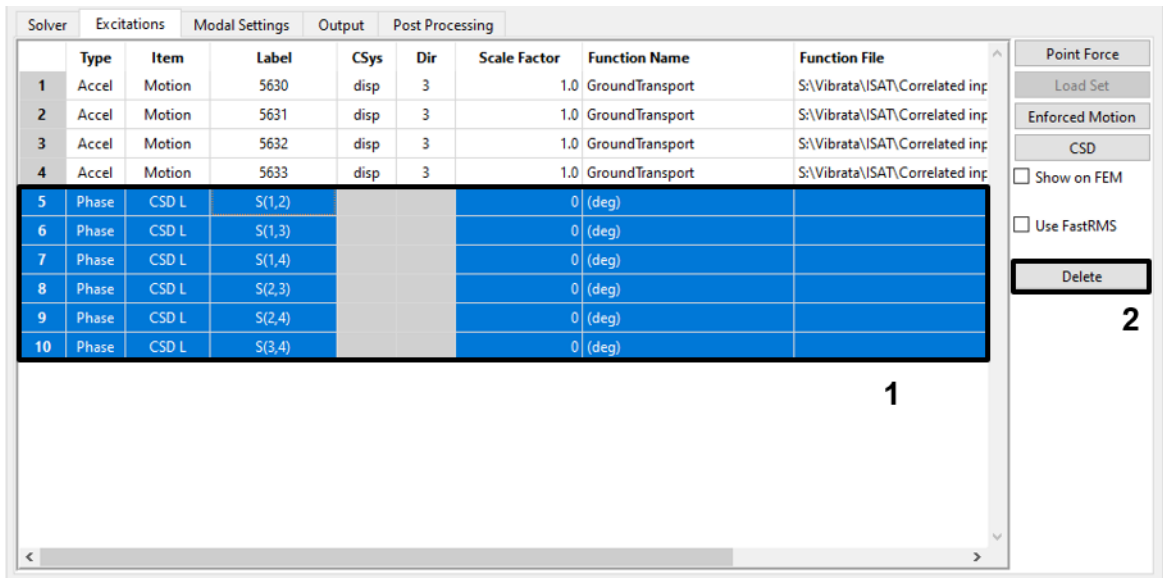

Figure 4-55. Delete the automatic CSD entries.
- Note that 0-phase CSD functions have been defined automatically to correlate these excitations. Ordinarily that is exactly what we want, but here we want to compare correlated and uncorrelated results, and we also want to illustrate how to use the CSD definition dialog. Therefore, delete these CSD functions (Figure 4-55). We will recreate them manually for the event in section 4.3.4.